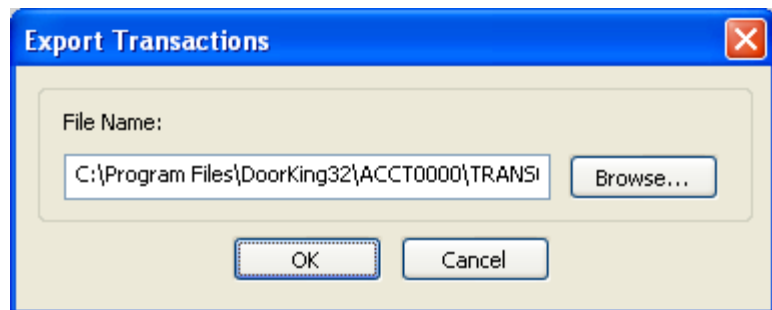

Figure 64
1. After the transaction file is open and displayed on your screen, click the EXPORT button in the toll bar. The EXPORT TRANSACTION window (Fig 64) will appear.